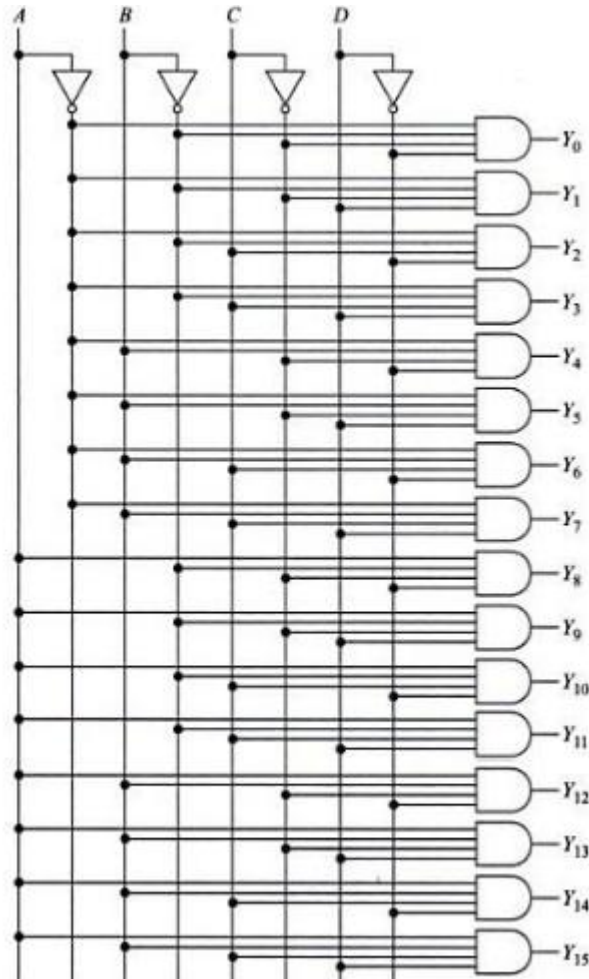

Figure 4.14: 1-of-16 decoder
- It is a multiple-input, multiple-output logic circuit which converts coded inputs into coded outputs, where the input and output codes are different (Figure: 4.14).